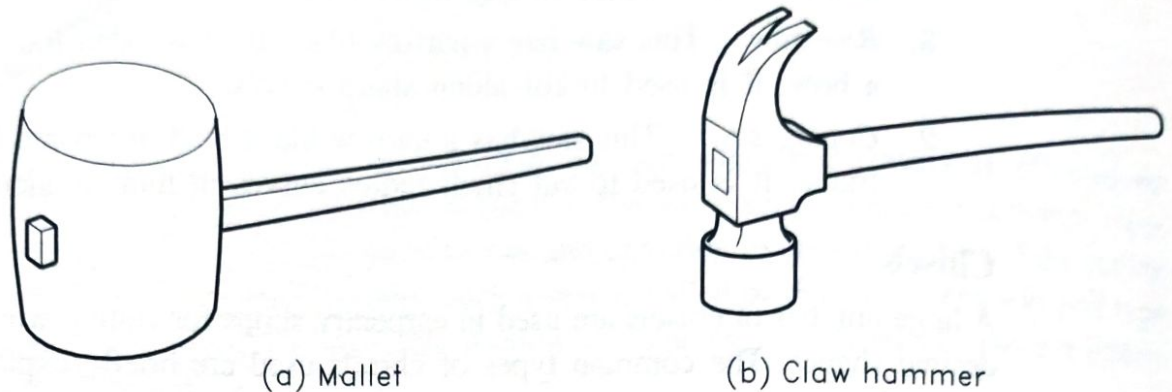

FIGURE 6.7
1. *Mallet:* This is a wooden-headed hammer of round or rectangular cross section. The striking face is made flat as shown in Figure 6.7(a). Mallet is used for striking the cutting tools and has wooden handle.
2. *Claw hammer:* This is a hammer having steel head and wooden handle. The flat face of the head is used to drive nails and the claw portion for extracting nails out of the wood [Figure 6.7(b)].